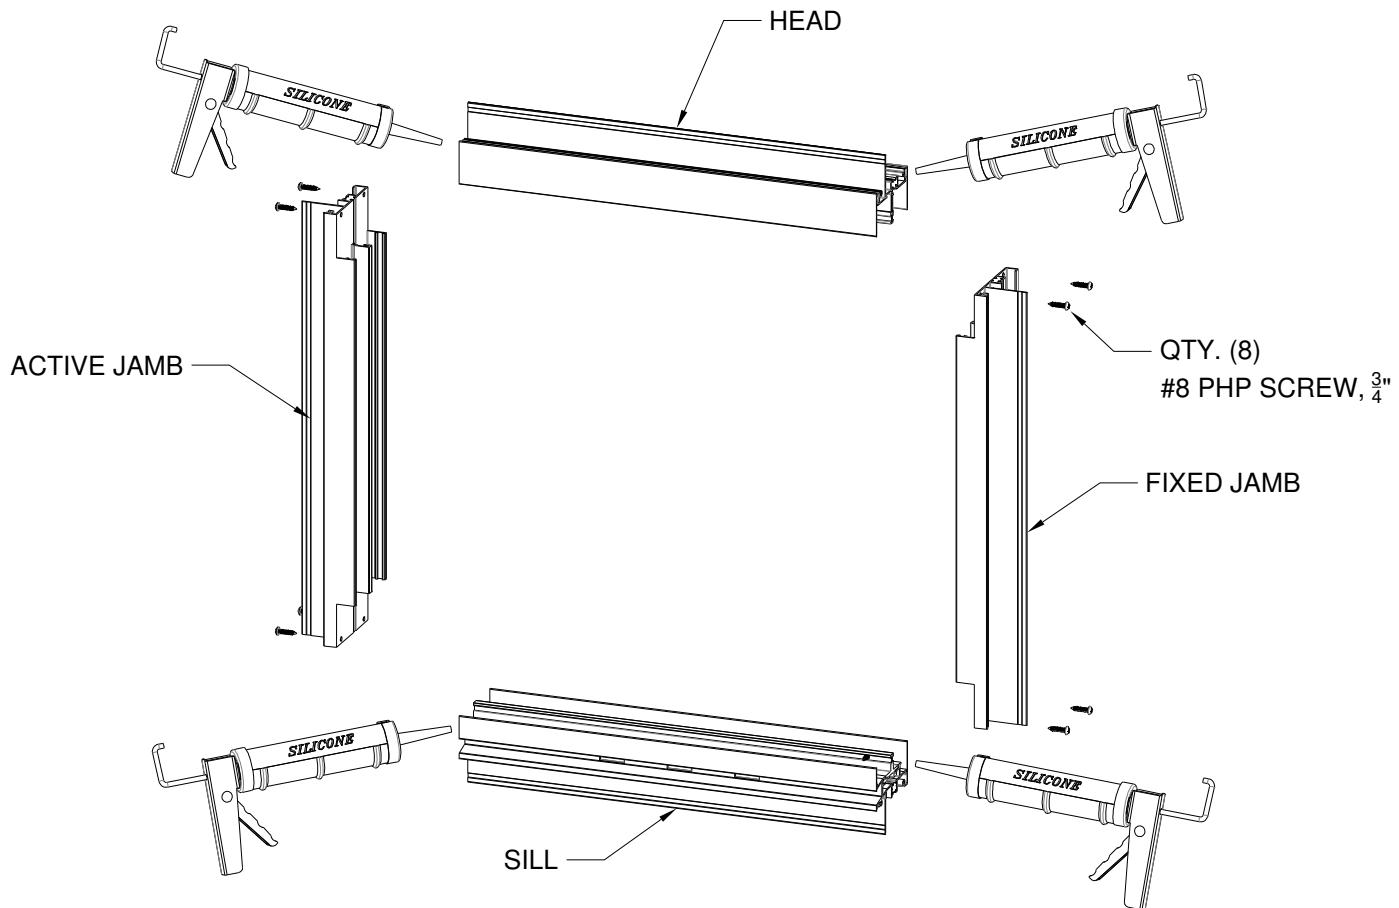

Figure 10:
2. Apply a compatible sealant to the ends of the head and sill. Assemble the frame with screws provided (Figure 10).